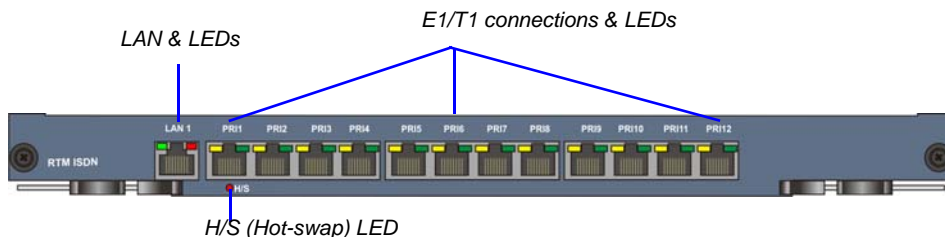

Figure 1-12 RMX 4000 RTM ISDN Rear Panel Layout
- 7 E1 or 9 T1 PRI lines that can be plugged into any of the 12 connections as shown in Figure 1-12.